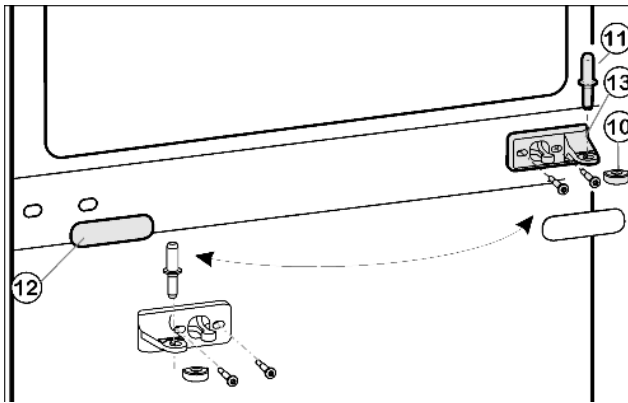
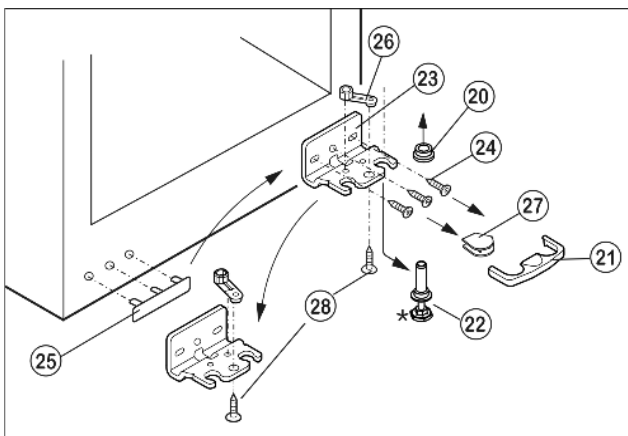

Fig. 5
Fig. 6
- ▶ Draw the middle bearing pin *Fig. 5 (11)* out of the turn hinge and lower door.
- ▶ Remove the plastic cap *Fig. 5 (10)*.
- ▶ Detach the middle turn hinge *Fig. 5 (13)*.
- ▶ Carefully detach the cover panel *Fig. 5 (12)*.
- ▶ Turn the middle turn hinge *Fig. 5 (13)* through 180° and screw it firmly into place on the new hinge side (**with 4 Nm**).
- ▶ Turn the cover panel *Fig. 5 (12)* through 180° and snap it into place again on the new handle side.
- ▶ Draw the safety lock *Fig. 6 (21)*.
- ▶ Remove the cover *Fig. 6 (27)*.*
- ▶ Fully retract the adjustable-height foot *Fig. 6 (22)*.
- ▶ Pull out the bearing pin *Fig. 6 (22)* downwards and forwards. In so doing, pay attention to the hinge bush *Fig. 6 (20)*.
- ▶ Unscrew the turn hinge *Fig. 6 (23)* (3 Torx 25) *Fig. 6 (24)*.
- ▶ Unscrew the bearing part *Fig. 6 (26)* (1 Torx 25), *Fig. 6 (28)*.
- ▶ Carefully lift off and transfer the cover *Fig. 6 (25)* on the handle side.
- ▶ Screw the turn hinge *Fig. 6 (23)* firmly into place on the new hinge side, possibly using a cordless screwdriver (**with 4 Nm**).
- ▶ Place the cover *Fig. 6 (27)* on the opposite side.*
- ▶ The safety lock (21) has to engage with the turn hinge at the side so that the bearing pin and therefore the door are secured.
- ▶ Snap the safety lock (21) onto the turn hinge again.
- ▶ Put on the hinge bush *Fig. 6 (20)*.
- ▶ Place the lower door from above onto the lower bearing pin *Fig. 6 (22)*.
- ▶ Place the plastic cap *Fig. 5 (10)* back onto the middle turn hinge *Fig. 5 (13)*.
- ▶ Place the middle bearing pin *Fig. 5 (11)* in the lower door, on the new hinge side, through the middle turn hinge *Fig. 5 (13)*.
- ▶ Place the upper door on the middle bearing pin *Fig. 5 (11)*.
- ▶ If necessary, align the doors to the appliance housing by way of the two oblong holes in the lower turn hinge *Fig. 6 (23)* and middle turn hinge *Fig. 5 (13)*. To do so, unscrew the middle screw in the lower turn hinge *Fig. 6 (23)*.